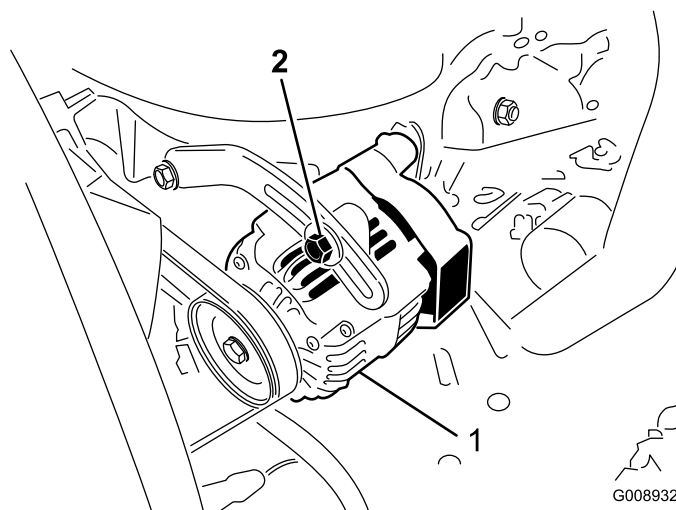

Figure 80
Check the condition and tension of the belts (Figure 80) after every 100 operating hours.
2. If the deflection is not 3/8 in. (10 mm), loosen the alternator mounting bolts (Figure 80). Increase or decrease the alternator belt tension and tighten the bolts. Check the deflection of the belt again to ensure that the tension is correct.